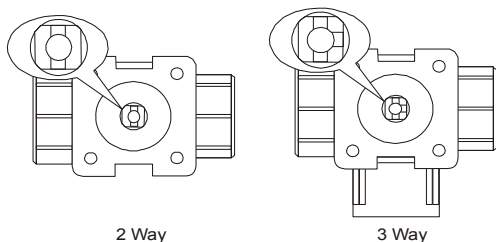

Figure 10: Positioning the Valve Stem
1. Turn the valve stem to the position outlined in Figure 10.